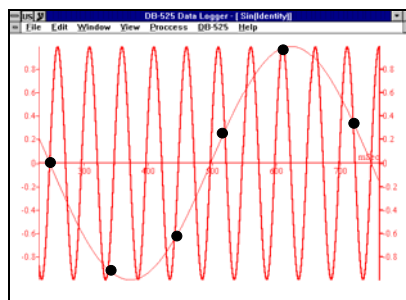

Figure 6: Frequency Aliasing
**Note:** Sampling at a rate slower than the expected rate can cause *frequency aliasing*. In such a case, the graph will show a frequency much lower than expected. In Figure 6 below, the higher frequency sine wave was sampled at 1/3 of its frequency. Connecting the sampled points yielded a graph with a lower, incorrect frequency.